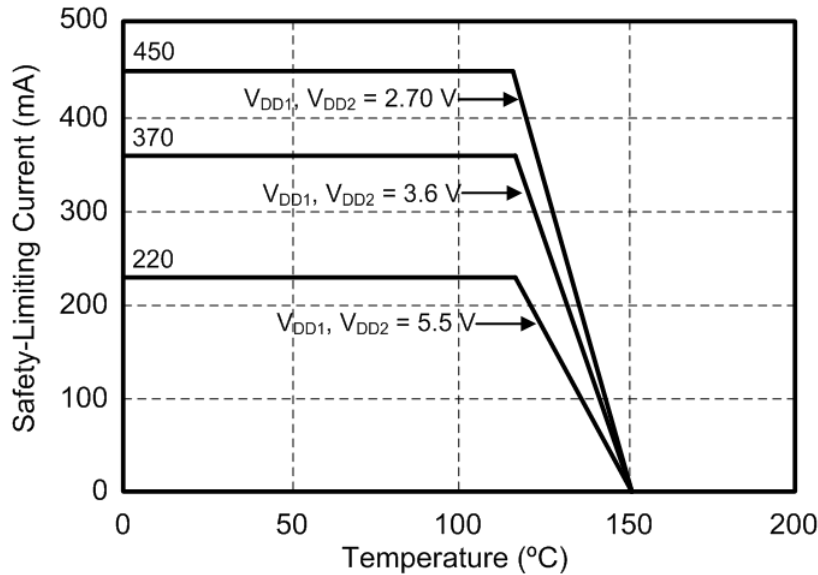
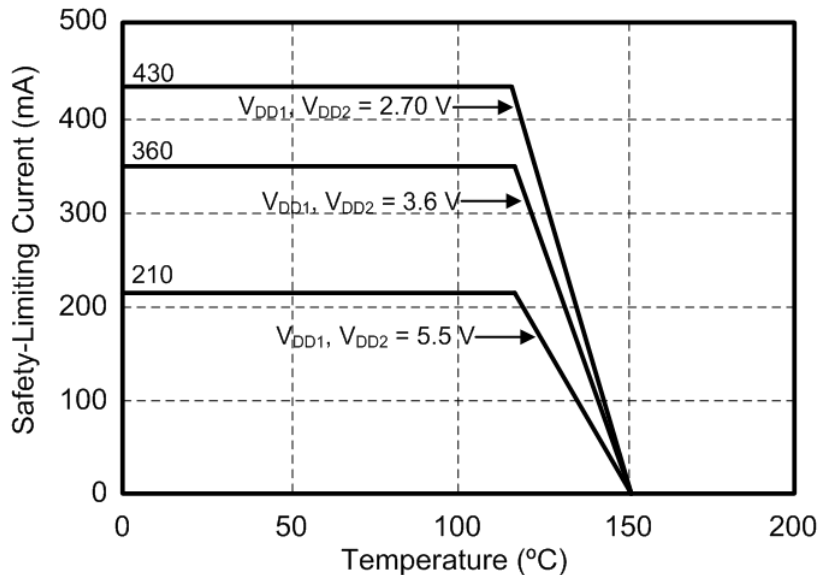

Figure 4.4. (WB SOIC-16) Thermal Derating Curve, Dependence of Safety Limiting Values with Case Temperature per VDE 0884-10
Figure 4.5. (NB SOIC-16, QSOP-16) Thermal Derating Curve, Dependence of Safety Limiting Values with Case Temperature per VDE 0884-10
1. Maximum value allowed in the event of a failure; also see the thermal derating curve in [Figure 4.4 \(WB SOIC-16\) Thermal Derating Curve, Dependence of Safety Limiting Values with Case Temperature per VDE 0884-10 on page 27](#) and [Figure 4.5 \(NB SOIC-16, QSOP-16\) Thermal Derating Curve, Dependence of Safety Limiting Values with Case Temperature per VDE 0884-10 on page 27](#).